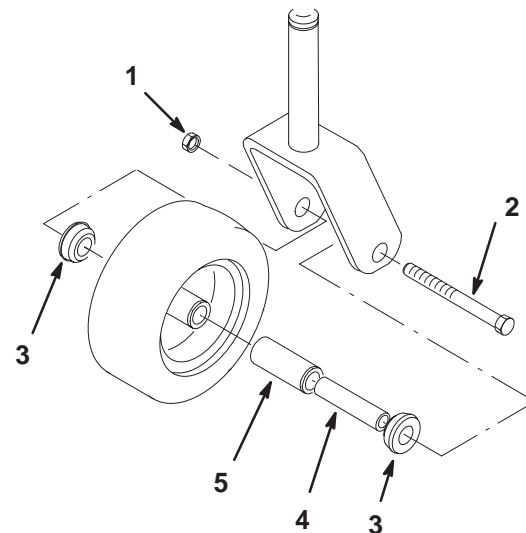

Figure 62
1. Remove the locknut and wheel bolt holding the caster wheel to the caster fork (Fig. 62).
2. Remove one bushing, then pull the spanner bushing and roller bearing out of the wheel hub (Fig. 62).
3. Remove the other bushing from the wheel hub and clean any grease and dirt from the wheel hub (Fig. 62).
4. Inspect the roller bearing, bushings, spanner bushing and inside of the wheel hub for wear. Replace any defective or worn parts (Fig. 62).
5. To assemble, place one (1) bushing into the wheel hub. Grease the roller bearing and spanner bushing and slide them into the wheel hub. Place the second bushing into the wheel hub (Fig. 62).
6. Install the caster wheel into the caster fork and secure with the wheel bolt and locknut. Tighten the locknut until the spanner bushing bottoms against the inside of the caster forks (Fig. 62).